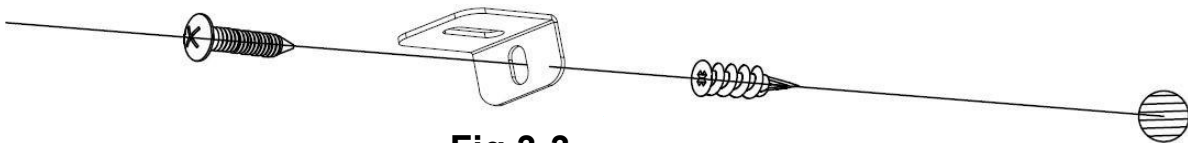

Fig 3-3
C. Install the plastic anchor (C) into the drywall, then install the screw (B) (supplied) into the hole of the L-bracket into the wall anchor to secure the fireplace from coming off the hooks. **(Fig 3-3)**.